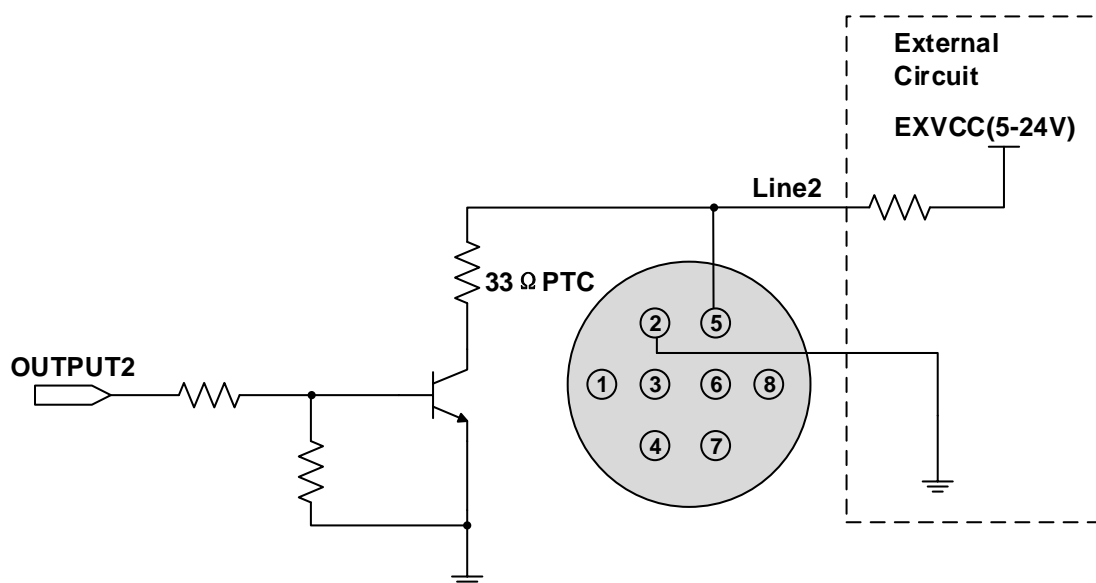

Figure 7-11 Internal equivalent circuit of camera when Line2 is configured as output
- When Line2/3 is configured as output, the internal equivalent circuit of camera is shown in Figure 7-11, taking Line2 as an example